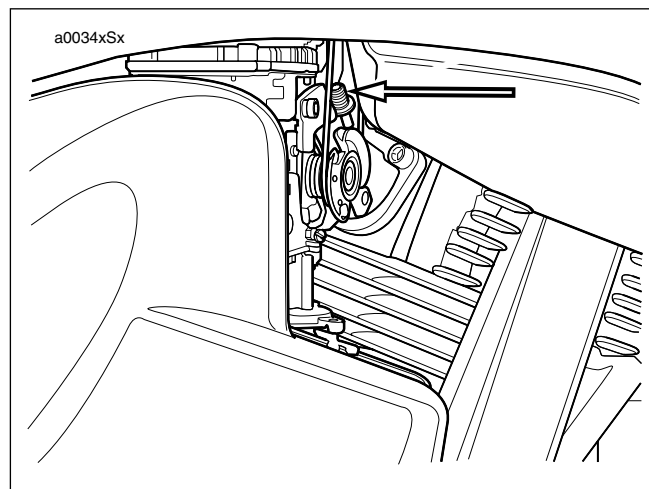

Figure 1-43. Adjusting Idle Speed using Idle Adjustment Screw
See Figure 1-43. Regular idle speed is 1200 RPM. Set idle speed using remote idle adjustment screw.
4. See Figure 1-43. Set engine speed by turning the idle adjuster clockwise to increase speed or counter clockwise to decrease speed until the tachometer has a reading of 1200 RPM.